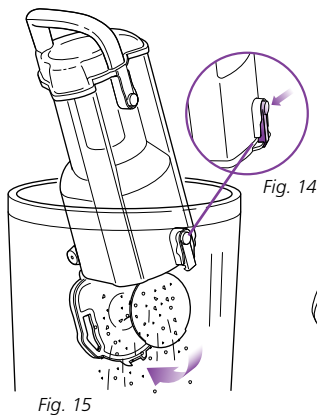

Fig. 15
- 3 **Option A:** for Quick Empty: Insert Dust Cup Assembly deep inside trash receptacle to contain dust and debris. (Fig. 15)